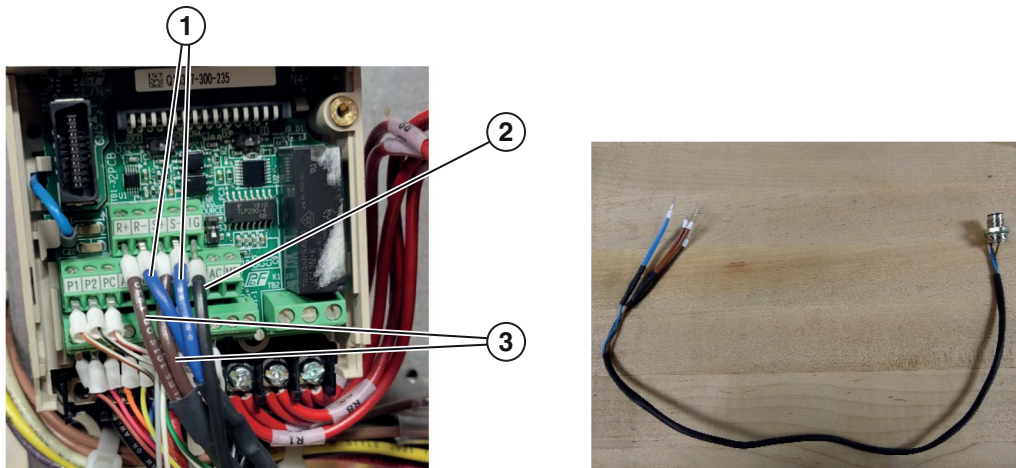

Figure 11: M12 Data Port Cable and Connection
2. Disconnect the M12 data port cable (**Figure 11**) from the VFD using a small flathead screwdriver and tighten the loose screws back down.